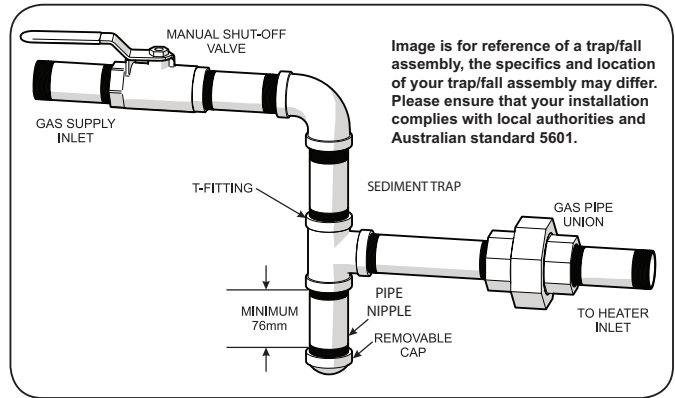

Figure 15. Manual Shut-off Valve and Sediment Trap
- Where required by local code, install a sediment trap/condensate fall and gas union in accordance with Australia standard 5601. See *Figure 15*.
Do not use flexible appliance connectors on any gas connections unless the connector is AGA approved for outdoor installation, and is marked with the BTUH capacity (which must be equal to or greater than the heater rated input) and the type of gas (Natural or LP). Also, any flexible connectors, such as CSST buried underground must be certified for underground installation and meet all applicable codes. Please note, use of flexible connector still requires the installation of a sediment trap. See *Figure 15*.